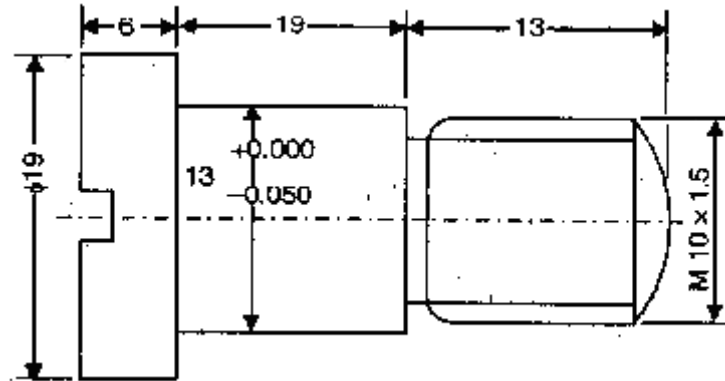

Figure 1
6. Draw the tool lay out for the component as shown in the figure1 and mention the sequence of operations performed on it [16]